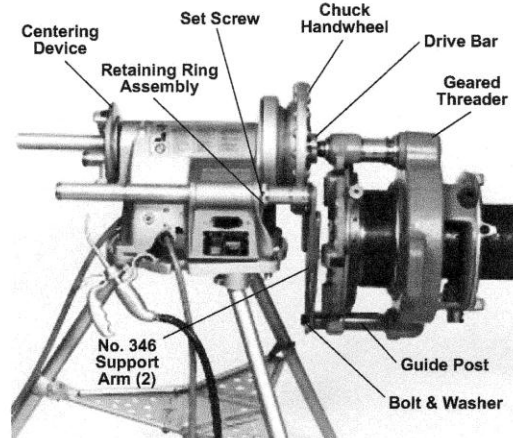

Figure 20 – No. 161 Geared Threader Close-Coupled to Power Drive
- 161 Geared Threaders (Figure 20) – Insert No. 346 Support Arms into support bars and secure retaining rings against Power Drive body with set screws.
- 161 Geared Threader (Figure 20) – Remove set screw (plug) from threader guide post and secure support arms with bolt and washer.